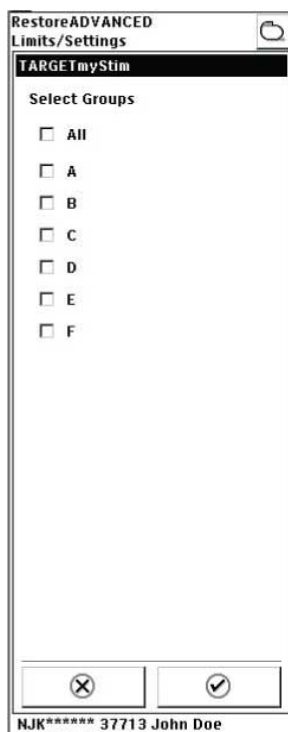

Figure 42. TARGETmySTIM screen.
4. Select a group or groups from the TARGETmySTIM screen (Figure 42).